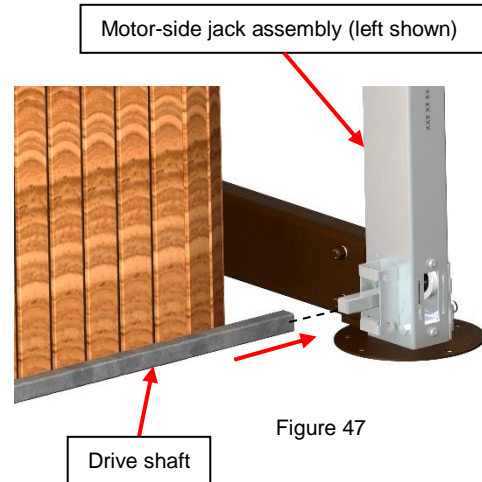

Figure 47
9) Slide the drive shaft over the square shaft located at the bottom of the **left** motor-side jack assembly. (Figure 47) **Note:** The drive shafts are in the two long U-frames. Tear the plastic film to locate them.